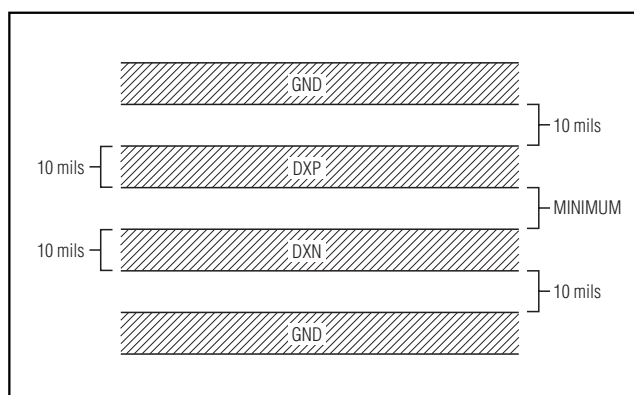

Figure 5. Recommended DXP-DXN PCB Traces
- 3) Route the DXP and DXN traces in parallel and in close proximity to each other. Each parallel pair of traces should go to a remote diode. Route these traces away from any higher voltage traces, such as +12VDC. Leakage currents from PCB contamination must be dealt with carefully since a $20\text{M}\Omega$ leakage path from DXP to ground causes about $+1^\circ\text{C}$ error. If high-voltage traces are unavoidable, connect guard traces to GND on either side of the DXP-DXN traces (Figure 5).